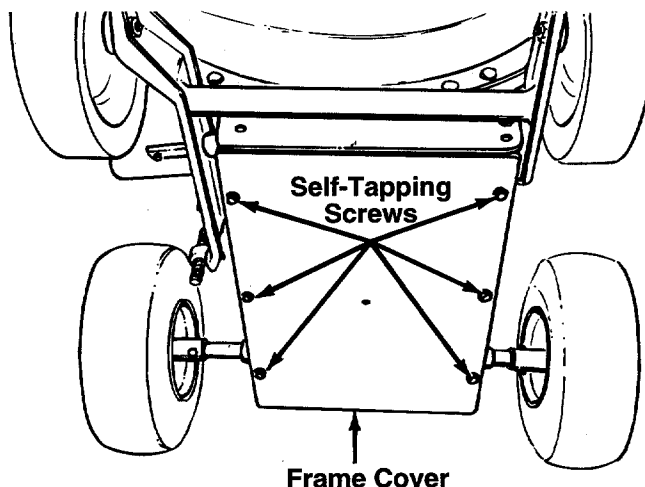

FIGURE 17.
3. Remove the frame cover by removing eight self-tapping screws from underneath the chipper-vacuum. See figure 17.
4. Remove the frame cover by removing eight self-tapping screws from underneath the chipper-vacuum. Refer to figure 17.